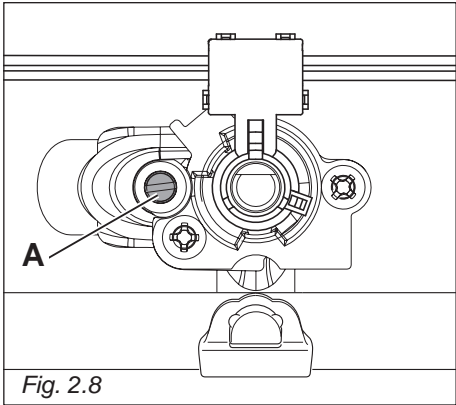

Fig. 2.8
- With a thin screwdriver turn the screw “A” until adjustment is correct (fig. 2.8).